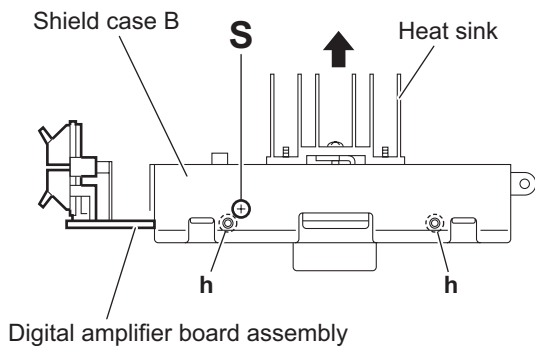

Fig.18
- From the top and bottom sides of the digital amplifier board assembly, remove the three screws **S**. (See Figs.18 and 19.)
- Release the joints (**h, j, k, m**) and remove the shield case B with the heat sink in the direction of the arrow. (See Figs.18 to 21.)